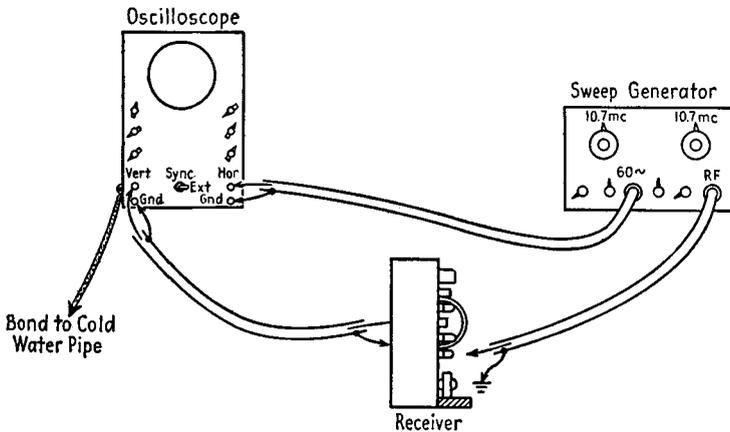

FIG. 26-18. Setting up the equipment for visual alignment.
**Setting up the equipment for visual alignment.** With the brief description of the test instruments just given, we are now prepared to set up the equipment for the visual alignment of the IF section of the F-M receiver. Refer to Fig. 26-18.